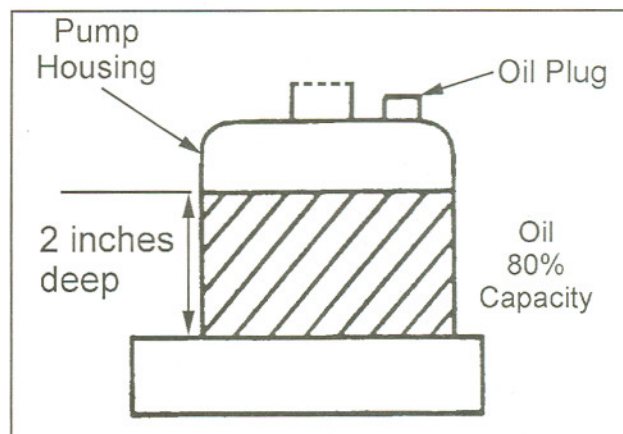

Fig. 7
Check the oil level annually by removing the oil plug found on the top of the pump housing. When changing or adding oil, fill the tank through the oil plug screw hole to 80% capacity with hydraulic jack oil, about 2" deep in pump housing, see Figure 7. **Do not** use any other type of oil.
7. Reassemble and fill the oil tank through the oil plug screw hole to 80% capacity with new hydraulic jack oil, about 2" deep in pump housing, see Figure 7.